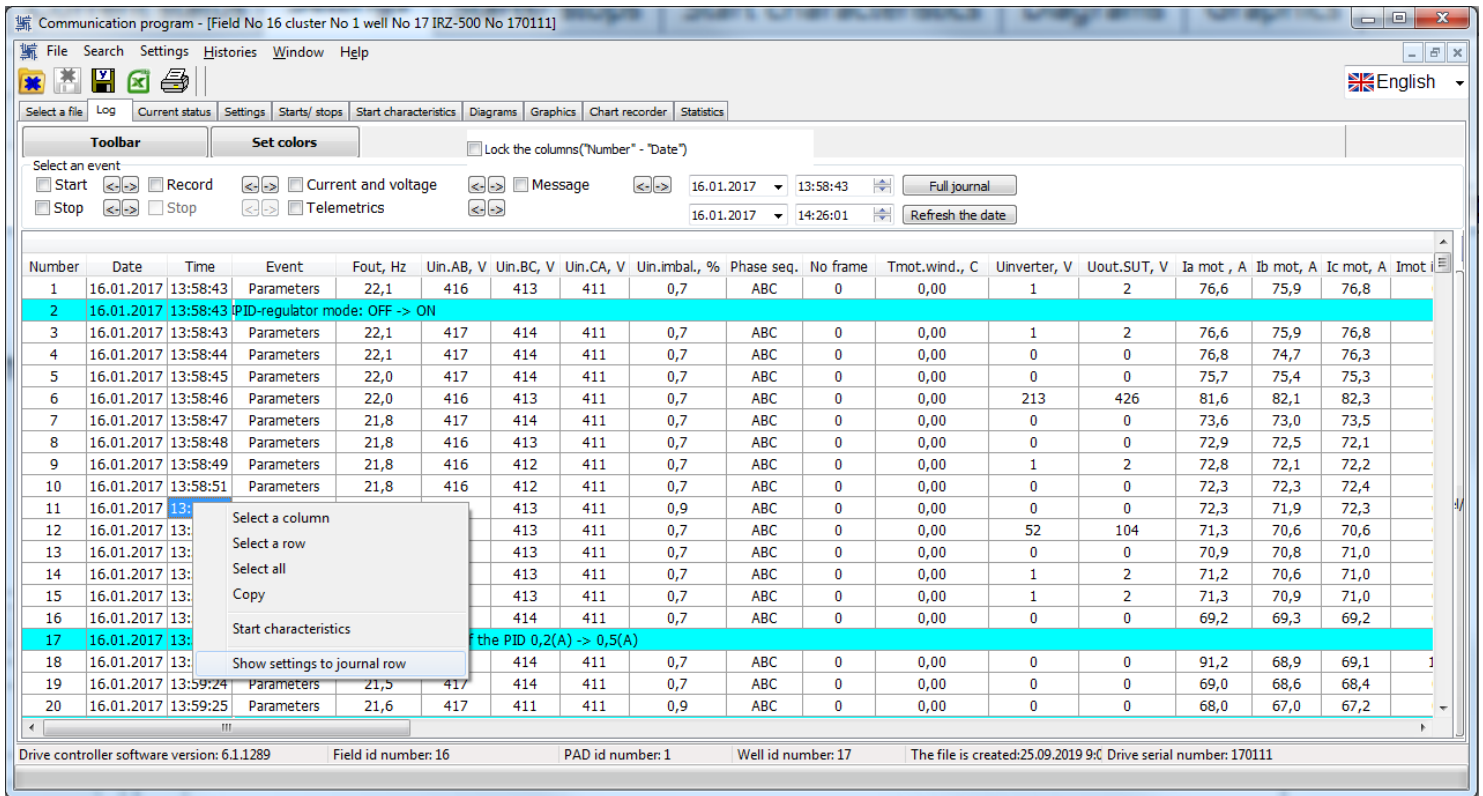

Fig. 23
- in the form of a table (see Fig. 23).
- user's specified log line in **Log** tab. To do so, select any field in the relevant line of **Log** tab to view the settings value, right-click and select appeared  (see Fig. 23). **Settings** tab will automatically appear with the setting values actual at the date and time specified in **Log** tab.